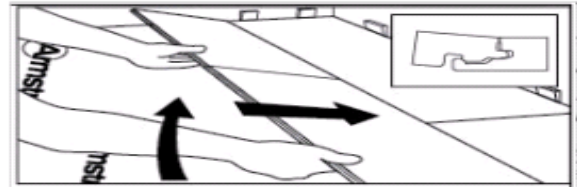

Fig. 14
12. Angle up and push forward until the boards lock together (Fig. 14).